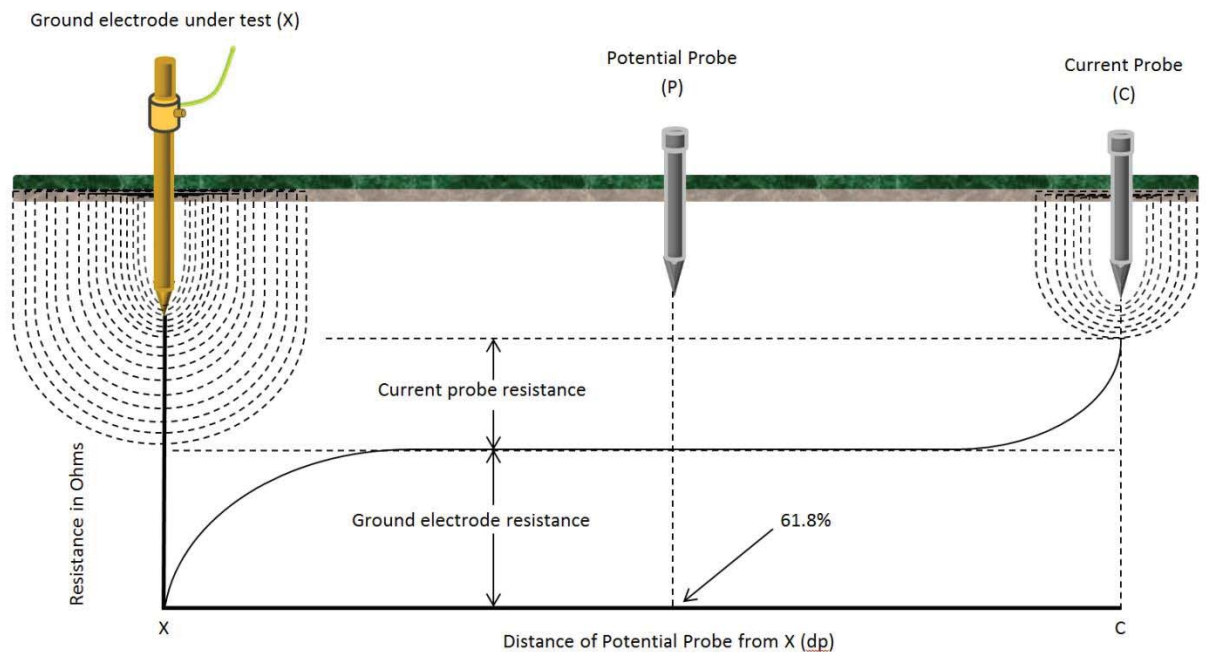

Figure 3 – Illustration of the fall of potential method of electrode resistance measurement
This is known as the 'fall of potential' method and it can be seen in Figure 3 below that most of the voltage is dropped around the electrodes where, as outlined above, the soil 'layers' are small around the electrode and therefore holds the majority of resistance. In the area between the electrodes there are is multitude of current 'paths' and the area (A) is very large so the change in resistance is very small.